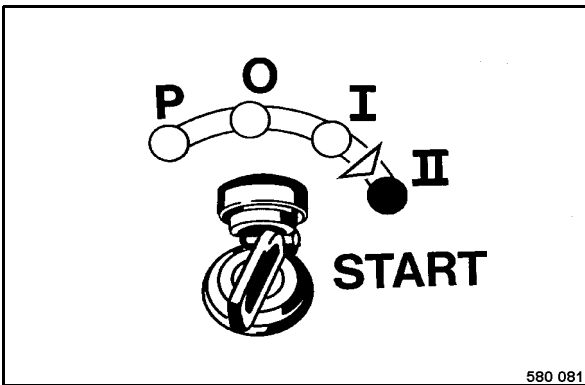

Fig. 92
- Turn the ignition key (Fig. 92) to position „II engine start.